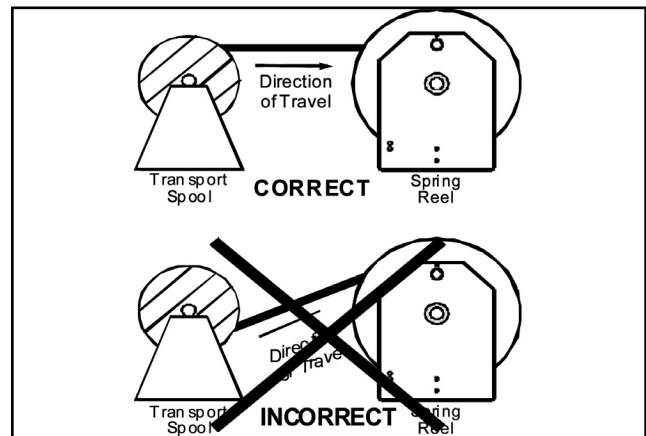

Figure 15-1
1. Prepare the cable to be loaded onto the reel. Support the cable as shown, or lay the full length of cable out in the direction of travel. Make sure the cable will lay flat by removing any twist from the cable. All weld cable lead ends should be tinned for optimal performance. See **Figure 15-1**.